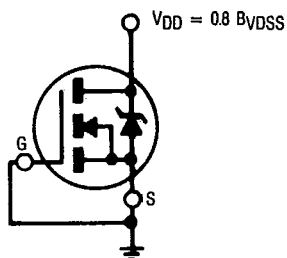

Fig. 11b — V_{DS} Stress Equals 80% of
12 volt V_{GS} steady state bias is a worst case condition for the "on-state" parameters of the device (eg. $V_{GS(th)}$, $R_{DS(on)}$, g_{fs} , etc.). The second test circuit biases the drain electrode with respect to the source and gate electrodes at 80% of the rated BV_{DSS} (pre-radiation) (fig. 11b). The steady state V_{DSS} bias equal to 80% of the rated BV_{DSS} (pre-radiation) is considered a worst case test condition for BV_{DSS} (post-radiation).
⑦ High Total Dose Irradiation with V_{DS} Bias. $V_{DS} = 0.8$ rated BV_{DSS} (pre-radiation) applied and $V_{GS} = 0$ during irradiation per MIL-STD-750C, method 1019. (See figure 11b)